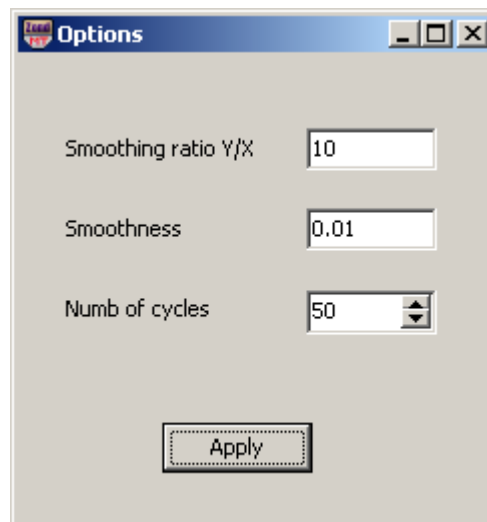

Fig. 52 Settings of 2D smoothing
*2D smoothing* function performs two-dimensional data smoothing. This function, unlike the previous one, allows data smoothing in the horizontal and/or vertical direction rather than removal of individual spikes. After selecting this option, a dialog Options (Fig. 52) appears with the following settings: